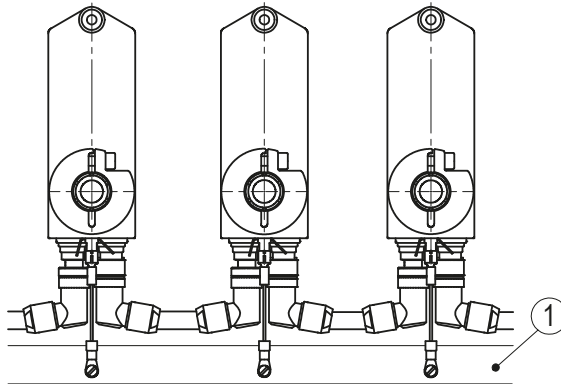

Fig. 11: Ground bar
For protection against interference, the screens of the signal lines and the power line must be connected on both sides. Potential differences cause inadmissible currents on the screen. Apply the PE connection ① to the protective conductor potential below the connecting plugs (see Fig. 4 or Fig. 6). Use 6.3 mm flat connectors with short strands 2.5 ... 4 mm2 (not in the scope of delivery). For multiple actuators we recommend connecting the earthing to a ground bar ① (see Fig. 11).